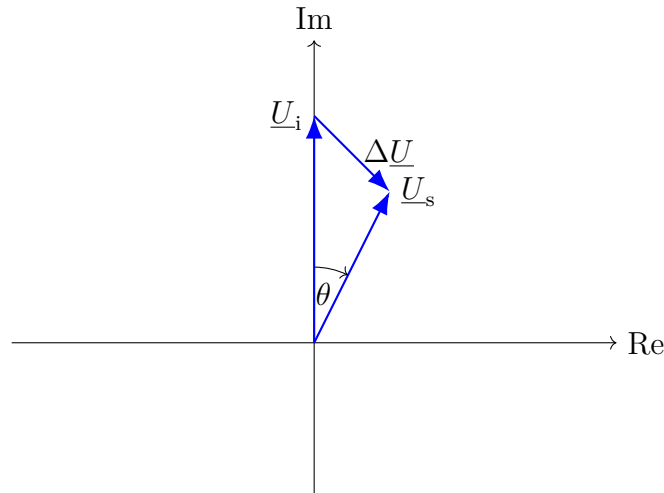

Figure 2: Phasor diagram of a synchronous machine with scaling  $1 \text{ kV} = 1 \text{ cm}$  and  $1 \text{ kA} = 1 \text{ cm}$ .
4.1 Determine the operating mode of the machine characterized by Fig. 2. [2 Points]